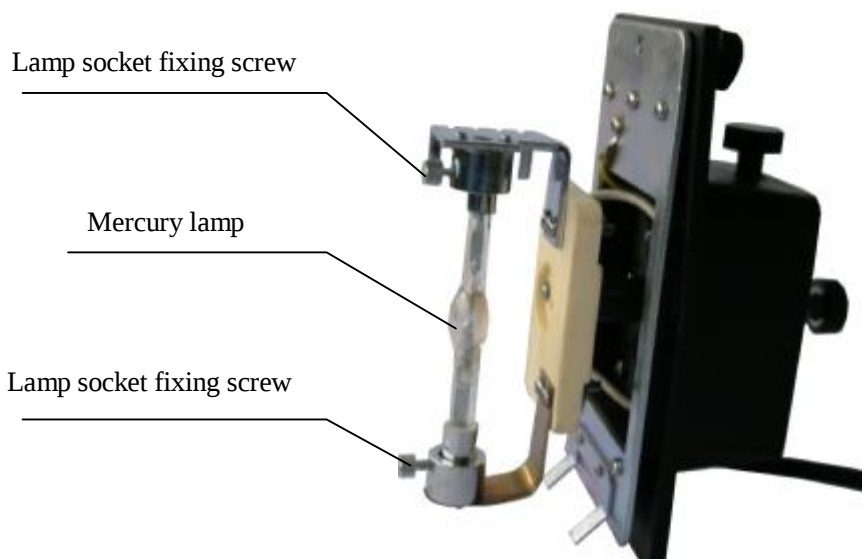

Fig.5
(1) Mercury lamp replacement: (Fig.5)